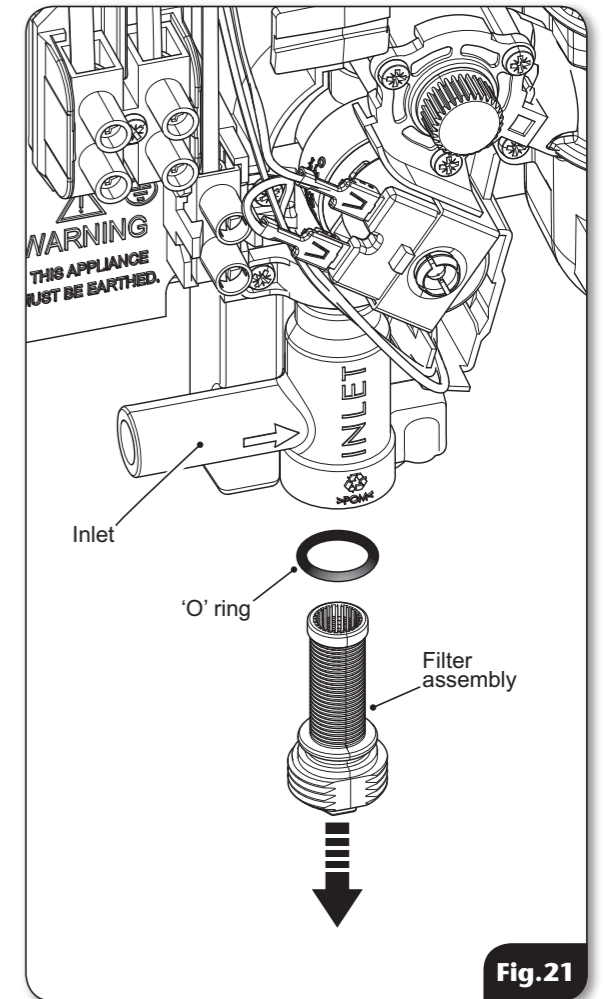

Fig.21
- The inlet filter is situated inside the water inlet fitting (fig.21).